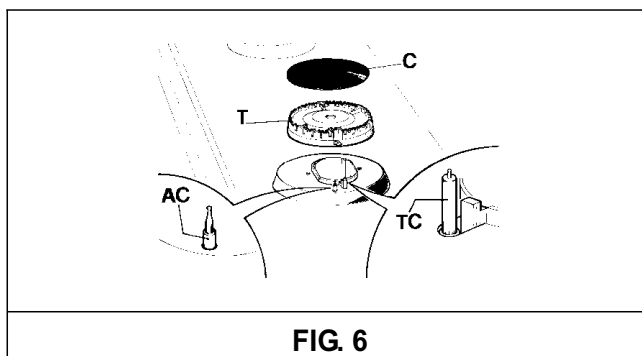

FIG. 6
Periodically wash the hot plate, the enamelled steel pan support, the enamelled burner caps "C" and the burner heads "T" (see fig. 6) with lukewarm soapy water. Following this, all parts should be thoroughly rinsed and dried. Never wash them while they are still warm and never use abrasive powders. Do not allow vinegar, coffee, milk, salted water, lemon or tomato juice from remaining in contact with the enamelled surfaces for long periods of time.
- **check that burner head slots "T" (fig. 6) have not become clogged by foreign bodies.**
- **Check that enamelled burner cap "C" (fig. 6) have correctly positioned on the burner head. It must be steady.**